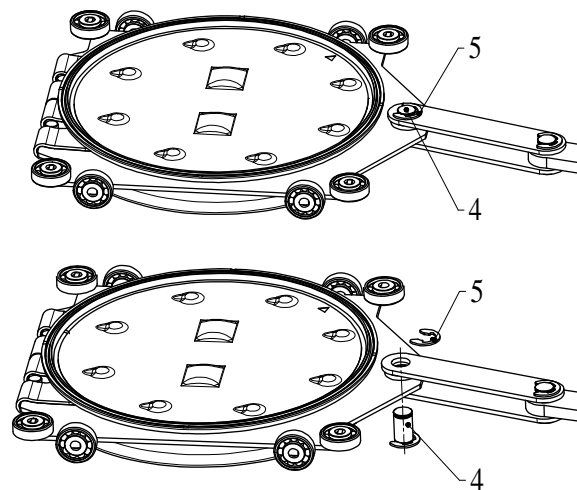

Figure 6-3
9. Remove locking ring (5) according to «Figure 6-3» on page 19.
10. Withdraw bolt (4) by pulling it downwards according to «Figure 6-3» on page 19.
16. Mount bolt (4) according to «Figure 6-3» on page 19.
17. Mount locking ring (5) according to «Figure 6-3» on page 19.